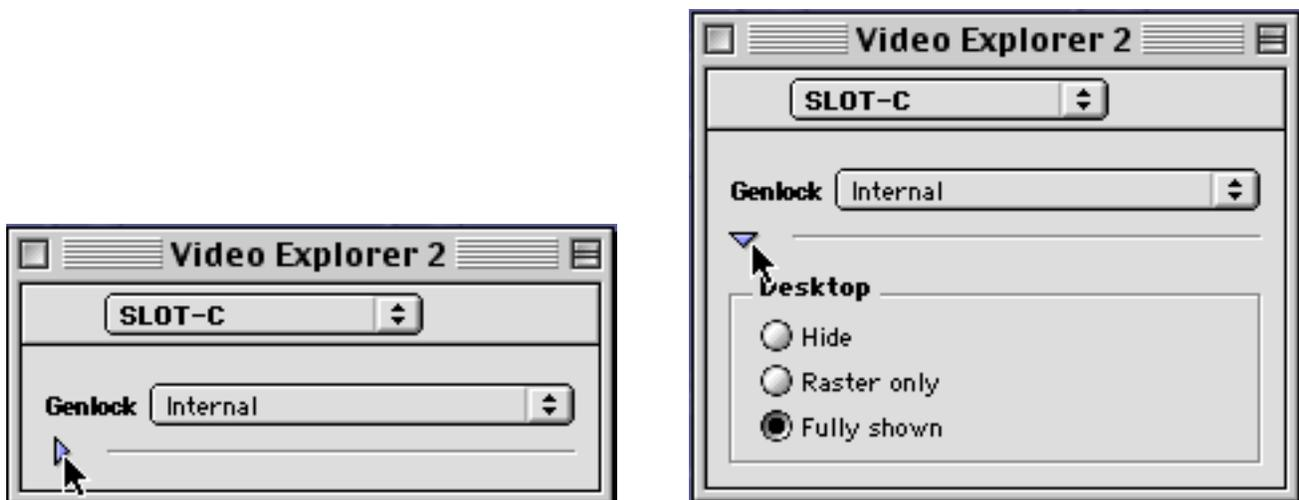

Figure 7 Video Explorer 2 Control Panel, Collapsed and Expanded
1. The Video Explorer 2 application software consists of the Video Explorer 2 Control Panel. Open this control panel on the path: System Folder: Control Panels: Video Explorer 2. See Figure 7.
2. The **Desktop** section of the Video Explorer 2 Control Panel indicates the state of the desktop. This section is normally used for troubleshooting only. See Figure 7 above.